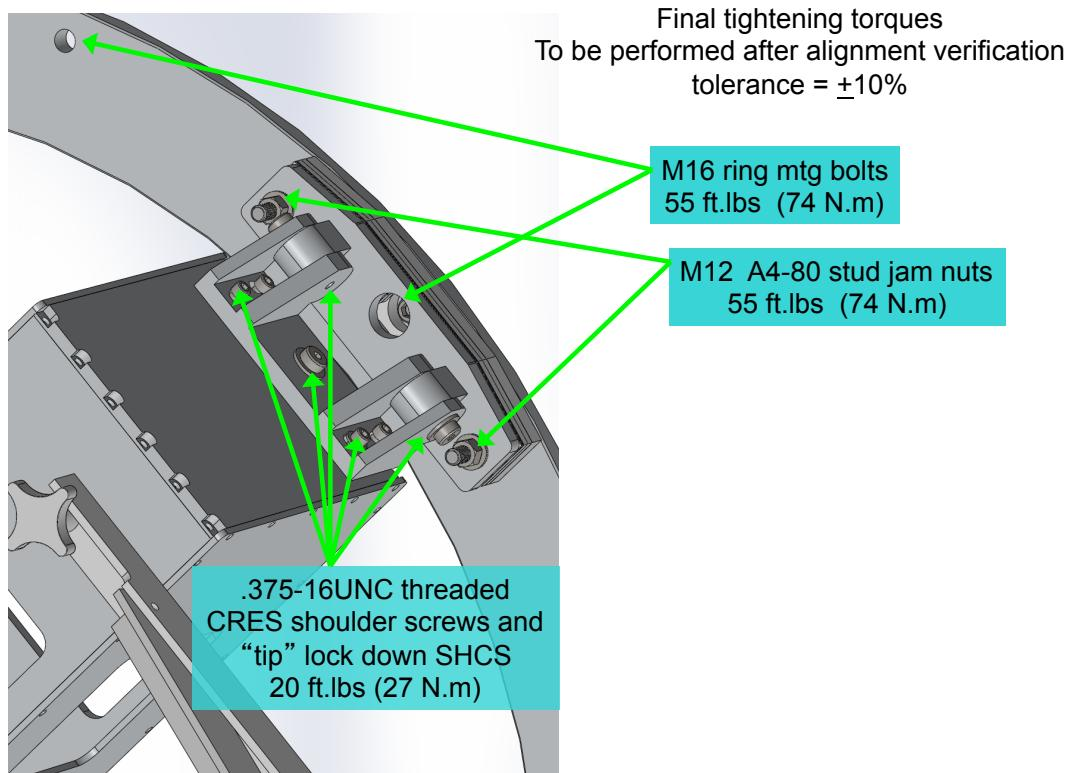

Figure 4: Torque specifications.
- 1.3.4) Tighten the Clio Mounting Frame knob, and the clevis jam nuts snugly or 1/4 turn past hand-tight (see figure 4).
Once the alignment is complete the six M16 fasteners of the NAS Mounting Ring, the M12 Stud Jam Nuts, and the .375-16 UNC shoulder screws shall be torqued to the specified level indicated in Figure 4.